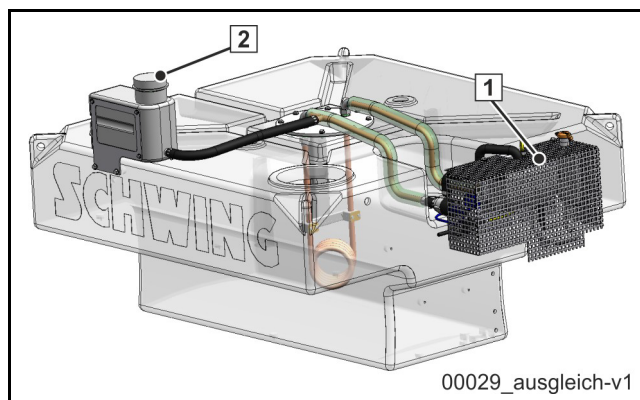
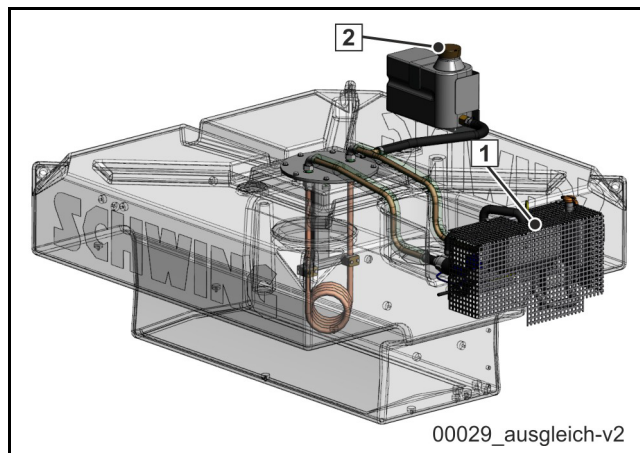

Fig. 502
Fig. 503
The water heater **(1)** (**Fig. 502**) is a piece of special equipment.
There are two possible installation points for the expansion tank: (2) (**Fig. 502**) or (**Fig. 503**).
- Make sure there is enough fluid in the heating circuit's expansion tank (2).